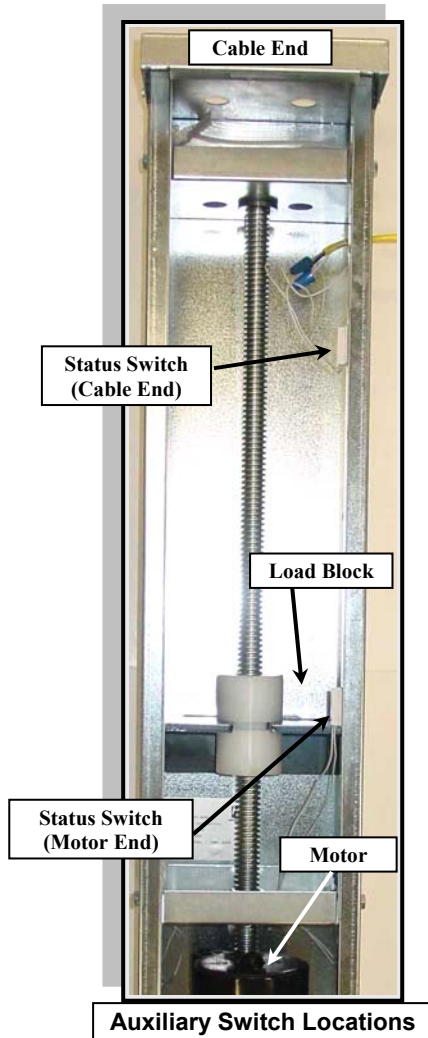

FIGURE 3
1. Use alcohol to clean the load block surface where the magnet will be applied. Ensure the surface is completely clean and dry before proceeding to the next step. **Refer to Figures 3, 4, and 5.**
4. Use alcohol to clean the cabinet flange surface where the reed switch will be applied. Ensure the surface is completely clean and dry before proceeding to the next step. **Refer to Figures 3, 4, and 5.**